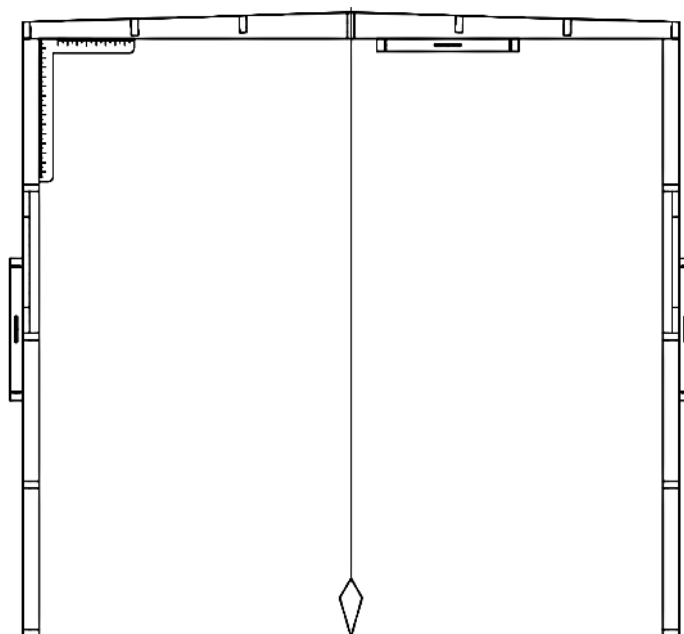

FIG. 9A
- a. Make sure entire shelter is plumb, level, and square (Figure 9a).